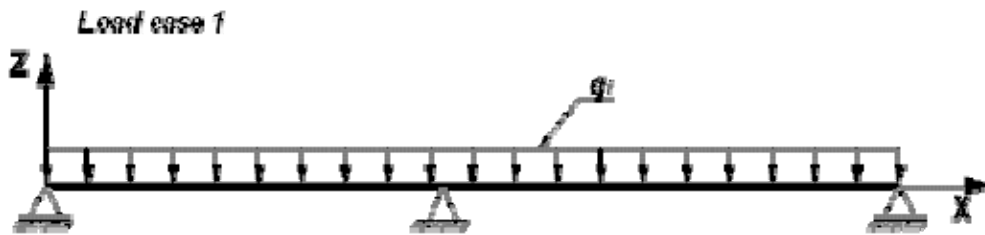

Figure 7.3 Load case No.1 for beam
- load case 1 – dead weight (see Figure 7.3);